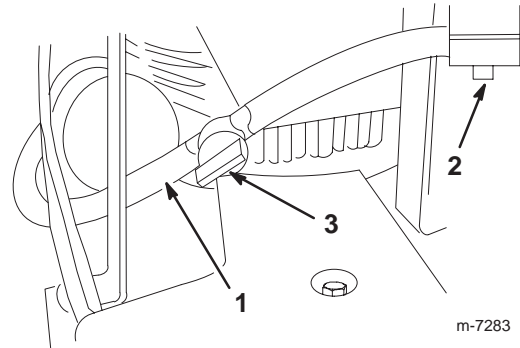

Figure 4
4. Remove the red cap from the end of the fuel line and from the end of the elbow fitting on the fuel tank (Fig. 4).
5. Slide the end of the fuel line onto the elbow fitting (Fig. 4).
6. Secure the fuel line in place with the fuel line clamp (Fig. 4).